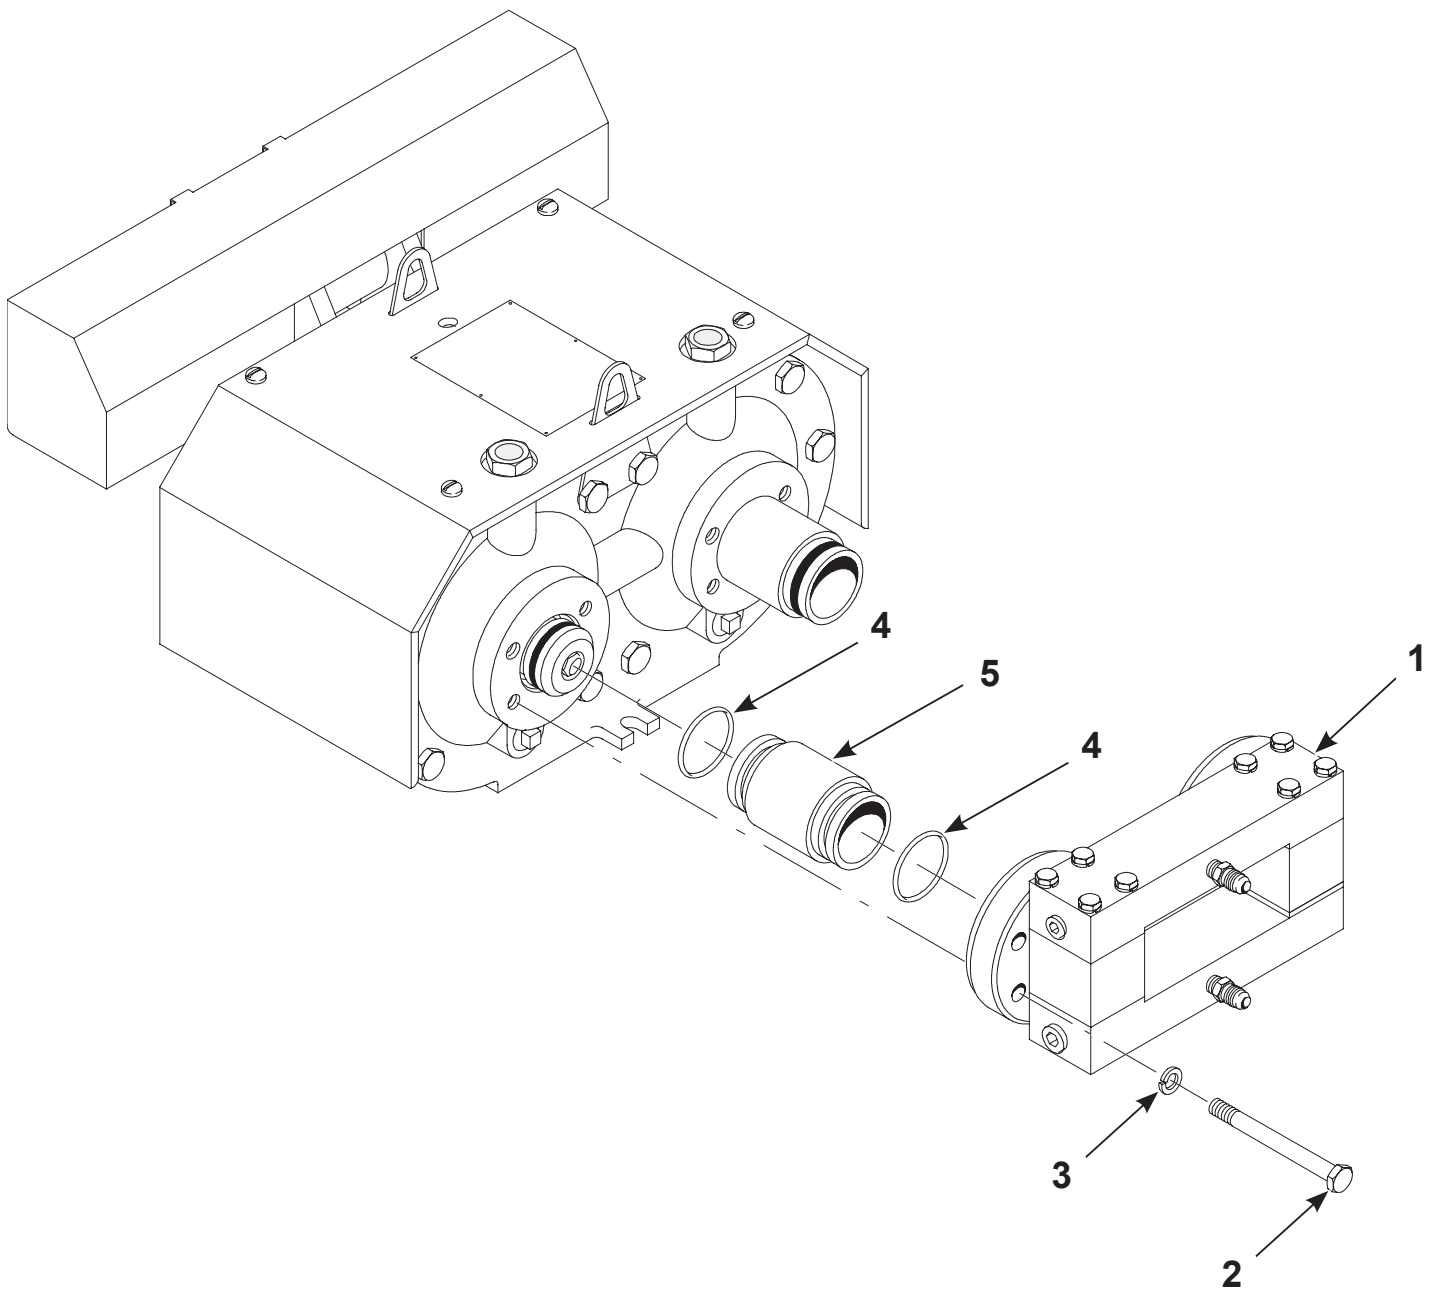

Figure 6-1 Hydraulic Section Removal
1. See Figure 6-1. Remove the screws (2) and lock washers (3) that secure the hydraulic section (1) to the pump.
2. Remove the high pressure cylinder (5) and O-rings (4). Discard the O-rings.